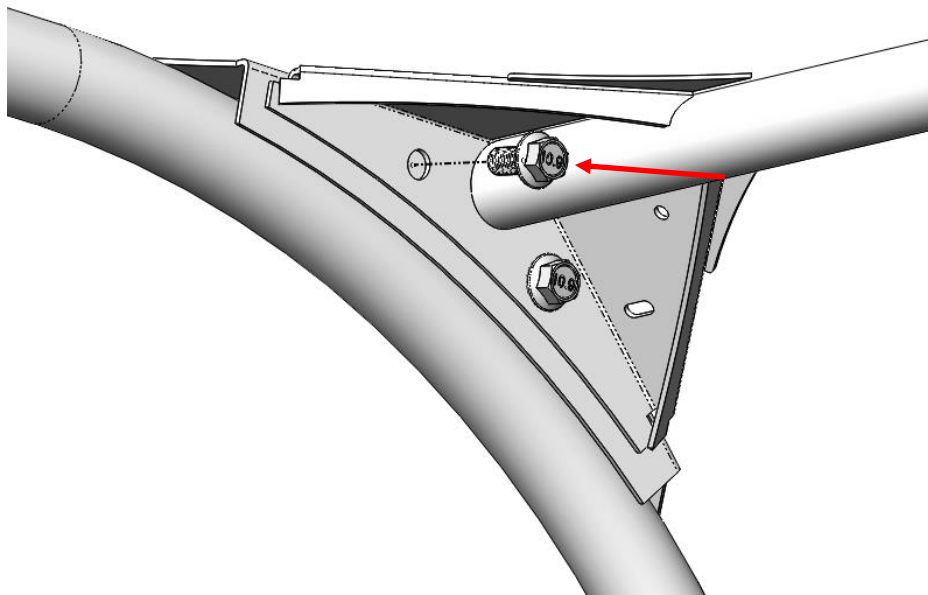

Figure 2: Remove the factory cross member bolt.
1. Remove the factory bolt from the driver's side of the front cross member as indicated in Figure 2. The bolt will be reused.